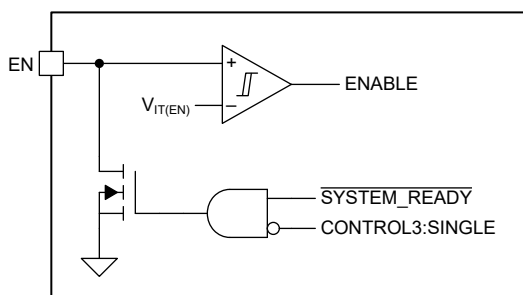

图 7-10. Enable Functional Block Diagram
The Enable (EN) pin is bidirectional and has two functions. See 图 7-10: